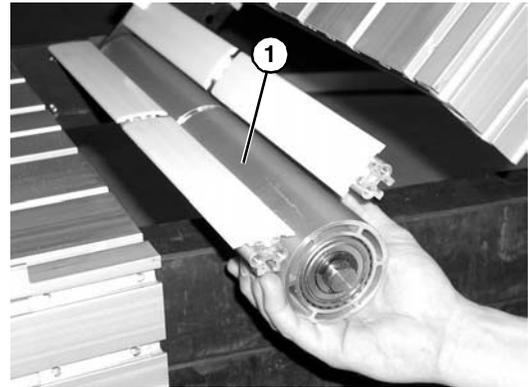

Figure 82
4. Slide the idler pulley assembly (Figure 82, item 1) out of the knuckle plate on the opposite side.